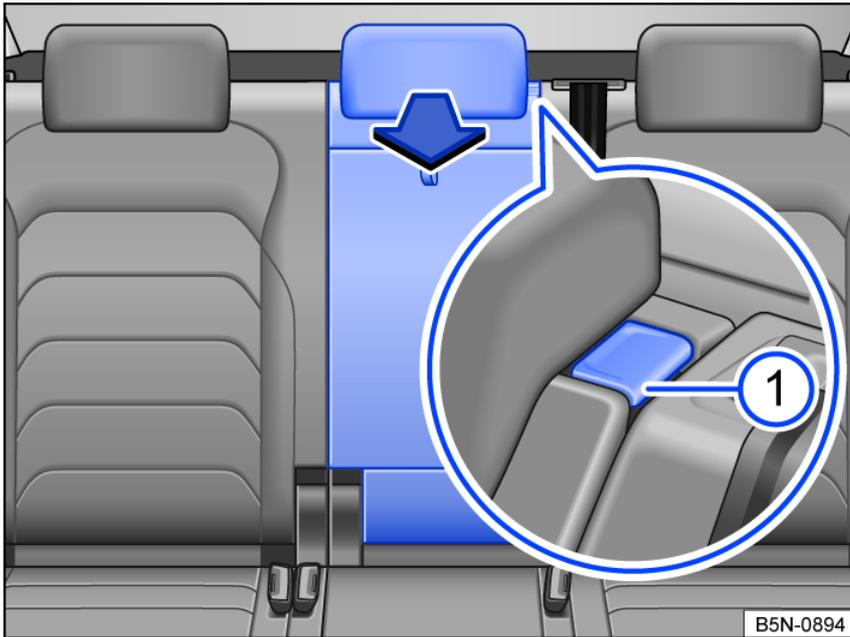

Fig. 160 In the rear seat backrest: Open the luggage compartment pass-through.
- Press the release button *fig. 160* ① and fold the luggage compartment pass-through forwards ⇒ ⚠.
- Fold the luggage compartment pass-through backwards and press it firmly into the catch until it securely engages ⇒ ⚠. The red marking on the release button *fig. 160* ① must not be visible.